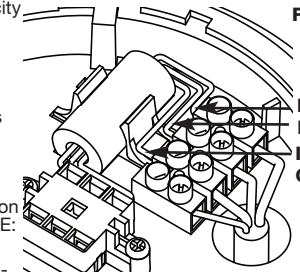

Fig 2.
1. Connect the brown (live) in the house wiring to connector Land the house blue wire (Neutral) to connector N. **NO CONNECTION SHOULD BE MADE TO THE MAINS ELECTRICITY SUPPLY EARTH TERMINAL. TERMINATE HOUSE WIRING EARTH IN SPARE CONNECTOR MARKED E.** See Fig 2